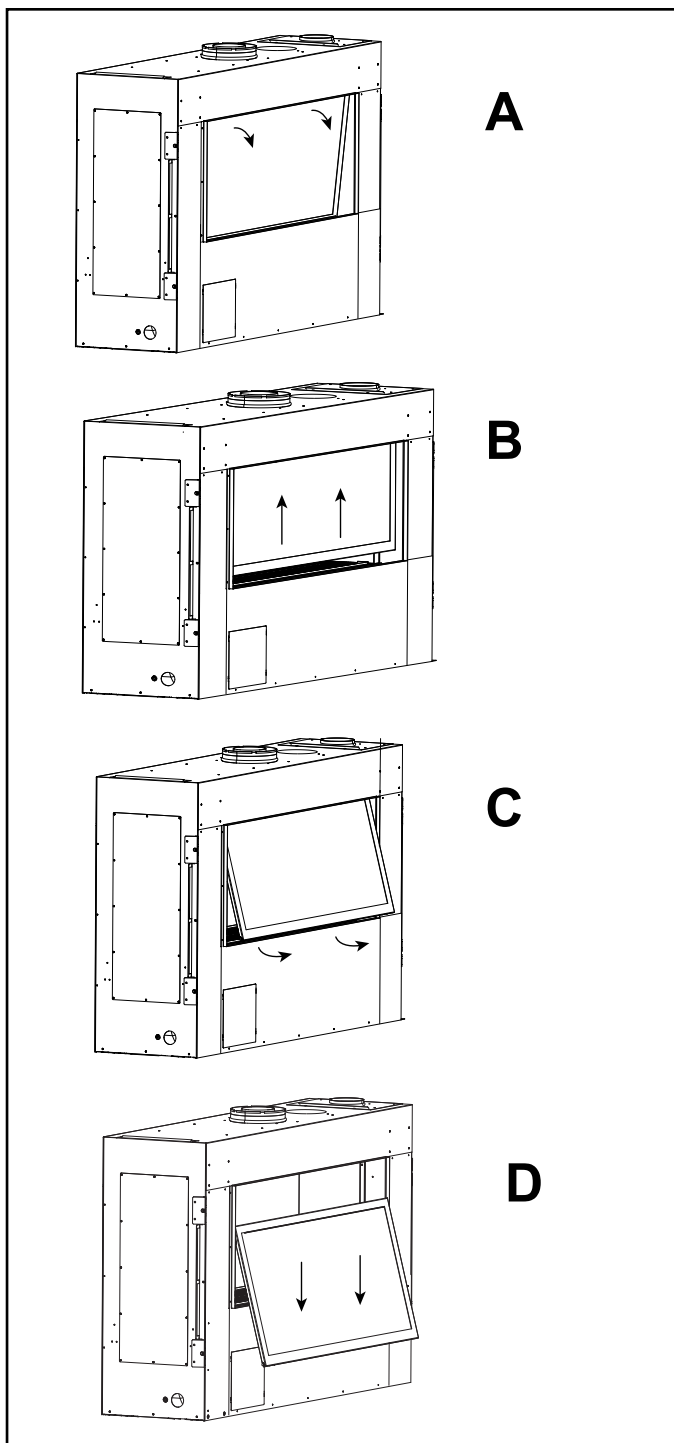

Figure 4.5 Removing Firebox Glass
5. Press glass suction cups firmly against glass and ensure that an adequate hold has been created. Lift up, then lower the glass assembly downward toward the firebox control cavity. Tip it outward slightly and lift out of appliance. See Figure 4.5.